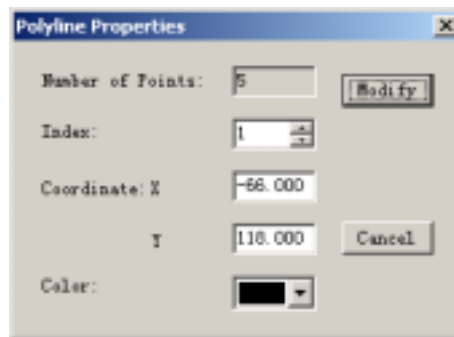

Fig. 6-47
3. A dialog is displayed. (Fig. 6-47)